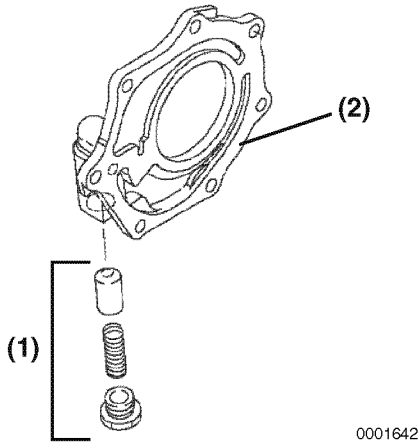

Figure 9-7
- Remove the oil pressure regulator valve (Figure 9-7, (1)) from the oil pump cover (Figure 9-7, (2)).